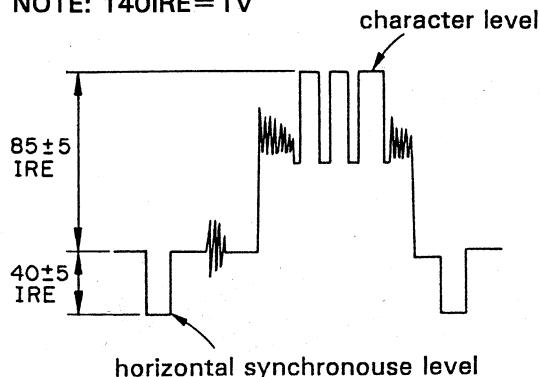

Fig.1
- Display superimposed characters after the color of the monitor screen changes to blue. Adjust the PLVL (VR803) so that the character level is 85 ± 5 IRE and the horizontal synchronous level is 40 ± 5 IRE. (refer to Fig.1)